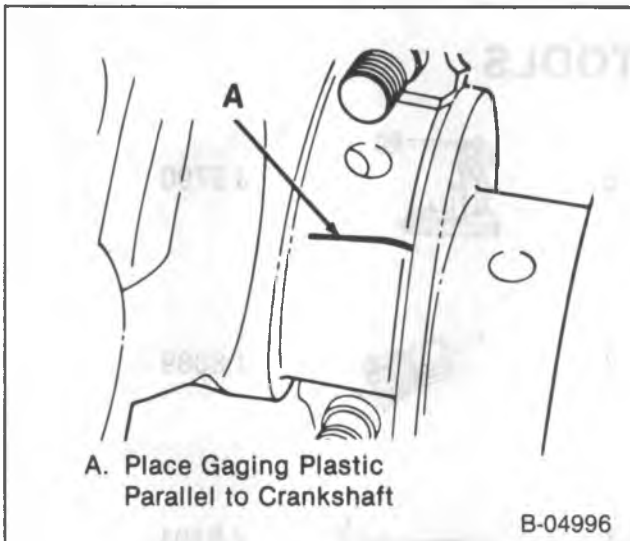

Figure 39—Placing the Gaging Plastic on the Connecting Rod Journal
Install or Connect (Figure 39)
2. A piece of gaging plastic the length of the bearing (parallel to the crankshaft) on the journal (figure 39). The plastic gage should be positioned in the middle of the upper and lower bearing insert. (Bearings are eccentric and false readings could occur if placed elsewhere.)